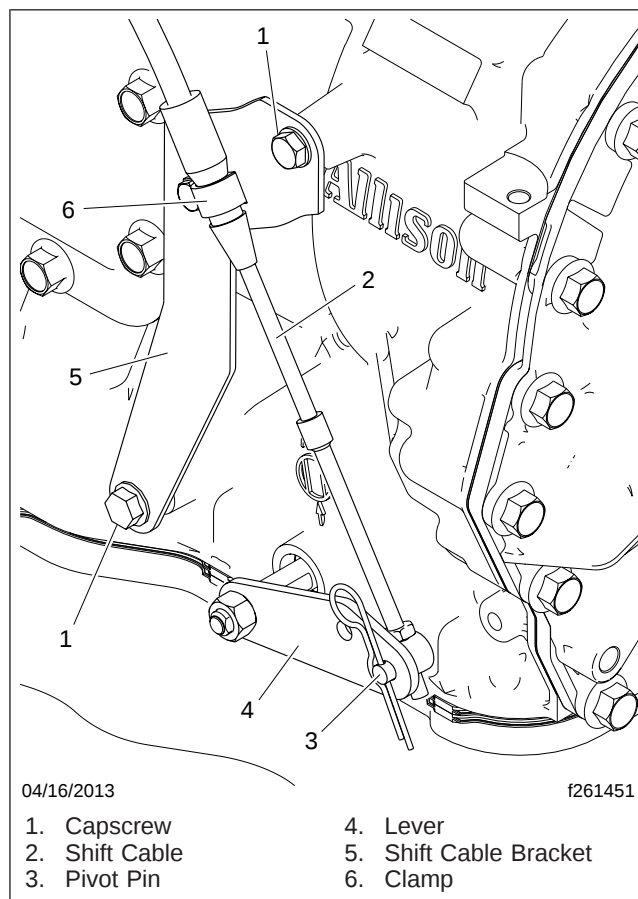

Fig. 1, Existing Shift Cable Installation
2. Remove the cotter pin, then remove the pivot pin and shift cable from the transmission shift lever. See Fig. 1.